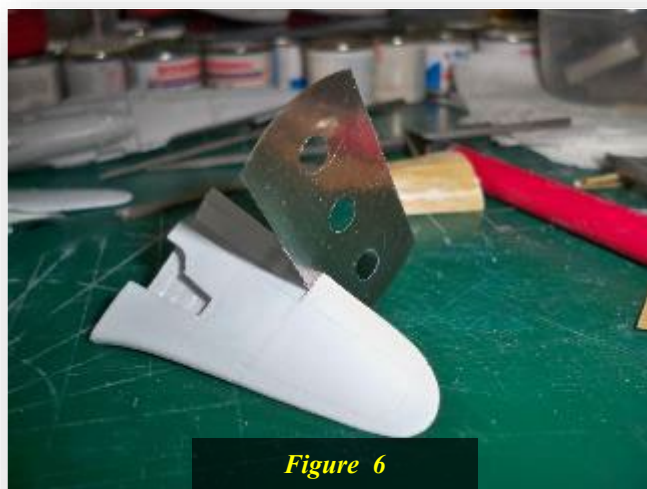

Figure 6
4. (Figure 6) Use a razor saw to cut through molded on lines for control surfaces. Check first to see that the lines are in the exact same space on the top and bottom. Many aren't! In that case hold the blade at a shallower angle and only use it to slightly deepen the lines without going all the way through. Finish off with fine sandpaper to clean up the cut.